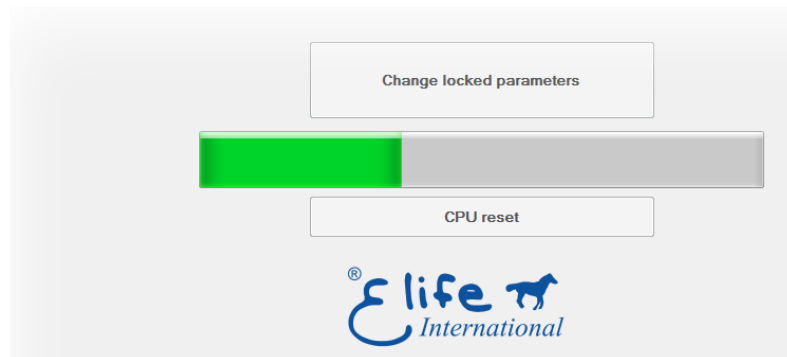

Figure 3.2: When the progress bar is running, Telemetry Panel downloads data from *.cfg* file to Elife-Drive.
3. Select the desired *.cfg* file and wait for the progress bar to get completely green (Figure 3.2).